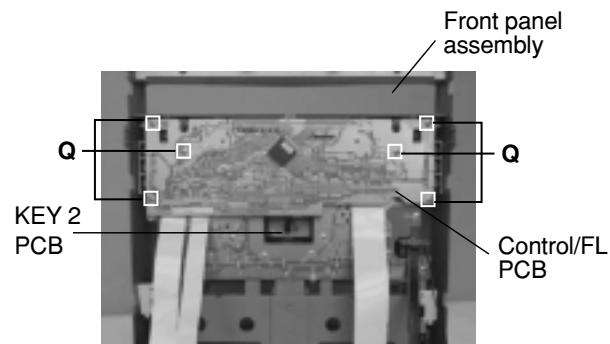

Fig.21
■ Removing the control/FL PCB (See Fig.21)
- Remove six screws **Q** retaining the front panel assembly.(Fig.21)
- Remove two screws **S** retaining the sound mode and CD function (key 2) switch PCB.(Fig.21)